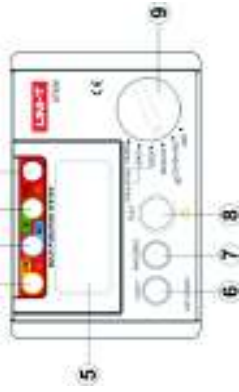

Figure 1
- Dimensions: 150mm(L) x 100mm(W) x 71mm(D)
V. Tester Description (Front View, See Figure 1)